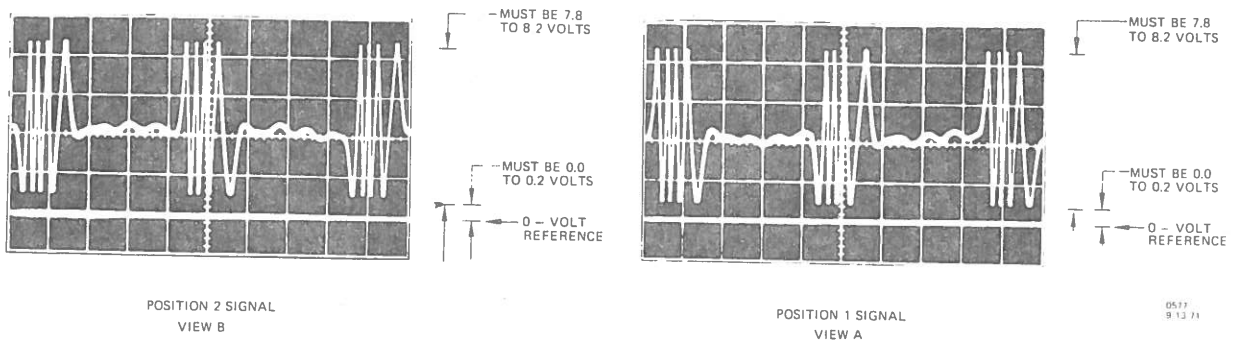

Figure 6-14. Position Signal Magnitude, Cylinders 000-008 Seek-Seek
3. By alternately grounding channels 2 and 1 (INPUT to GND), observe scope patterns for position 1 and 2 signals for following conditions. See figure 6-14.